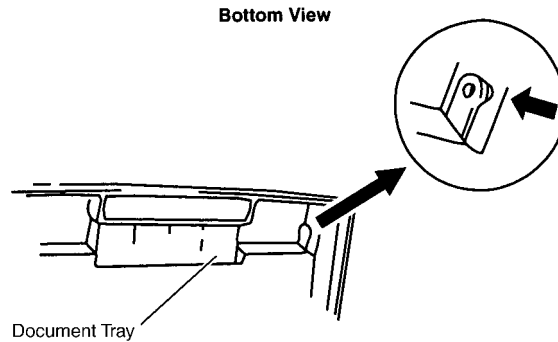

Fig. 4-13
- 2) Push the Document Tray, as shown in the Fig. 4-13.